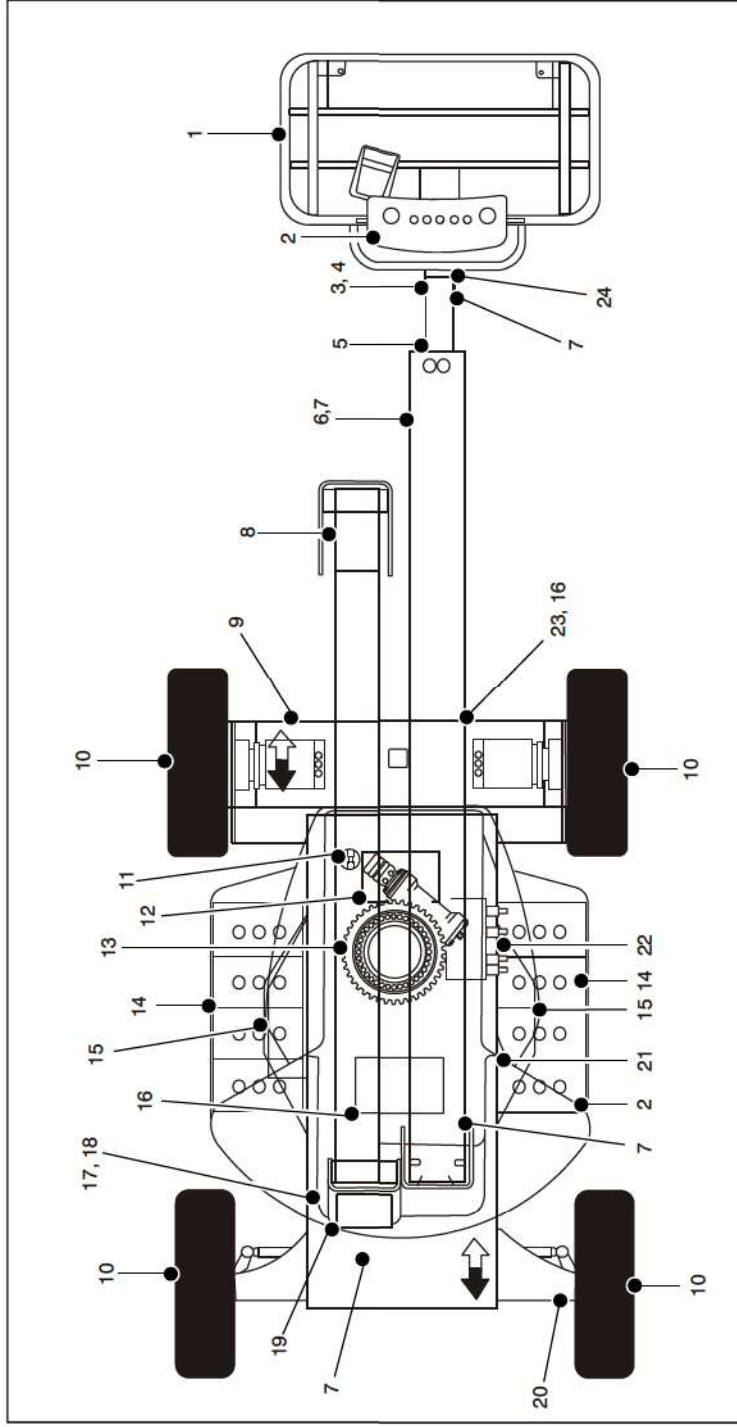

Figure 2-2. Daily Walk-Around Inspection - Sheet 1 of 3
5. **"Walk-Around" Inspection** – Refer to Figure 2-2. thru Figure 2-4.